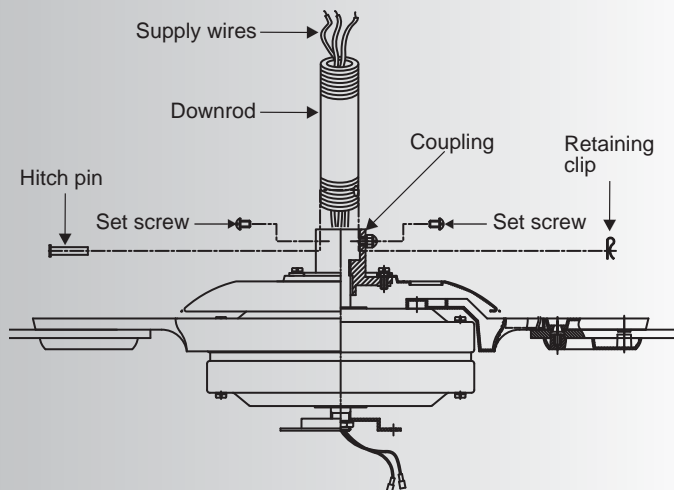

Fig. 11
Step 6. Loosen the two set screws and remove the hitch pin and retaining clip from the coupling on top of the motor assembly. (Fig. 11)
Next, replace the hitch pin and retaining clip. Tighten both set screws. (Fig. 11)